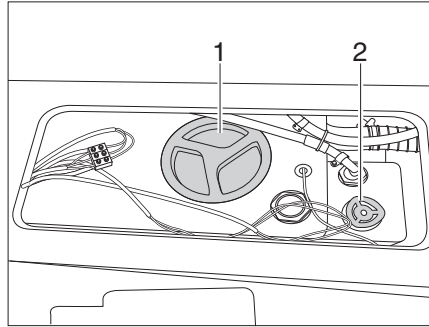
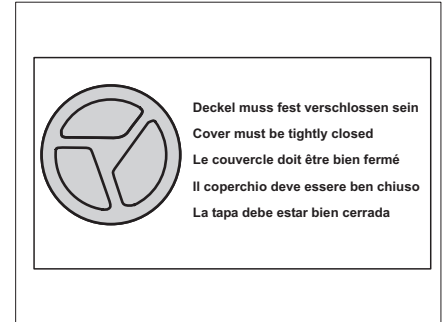
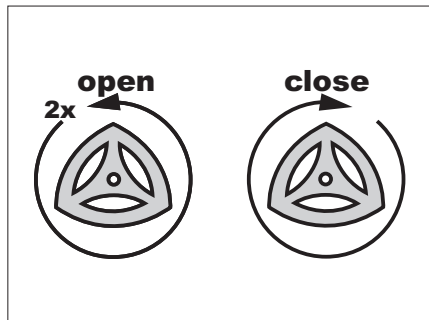
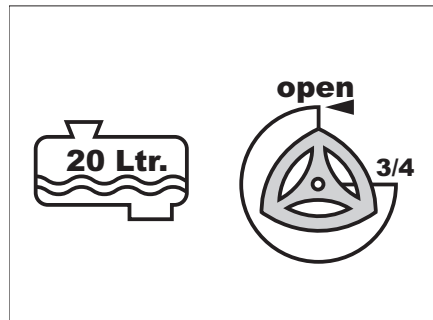

Fig. 121 Water tank
Fig. 122 Warning sign cap
Fig. 123 Water tank fill - drain
Fig. 124 20 l maximum filling
- ▶ There are 2 caps (Fig. 121, 1) at the water tank. Check before the journey whether **both** caps are closed. Observe the warning sign (Fig. 122).
- Turn the adjusting wheel (Fig. 121, 2) as far as possible in a clockwise direction.
- Screw the cap (Fig. 121, 1) back onto the water tank.
- Turn the adjusting wheel (Fig. 121, 2) 2 rotations anticlockwise (see also Fig. 123).
- Turn the adjusting wheel (Fig. 121, 2) $\frac{3}{4}$ of a rotation anticlockwise. The fresh water is drained down to 20 litres (see also Fig. 124).
- Turn the adjusting wheel (Fig. 121, 2) 2 rotations anticlockwise.